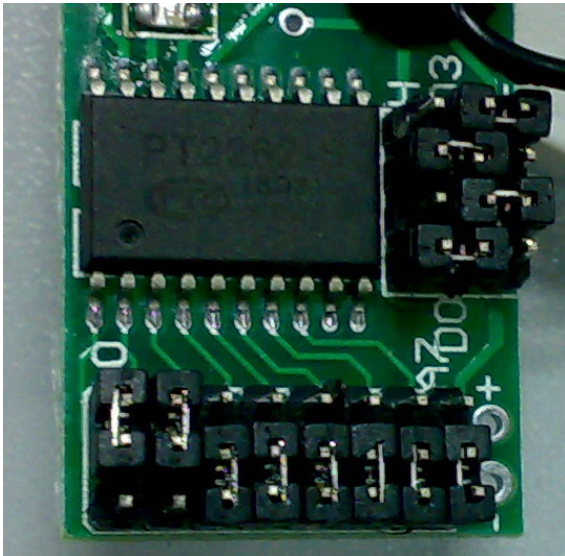

Fig.7 Wireless glass sensor DIP switch
- Carefully flip over the smaller DIP switch PCB as shown in Fig. 7.